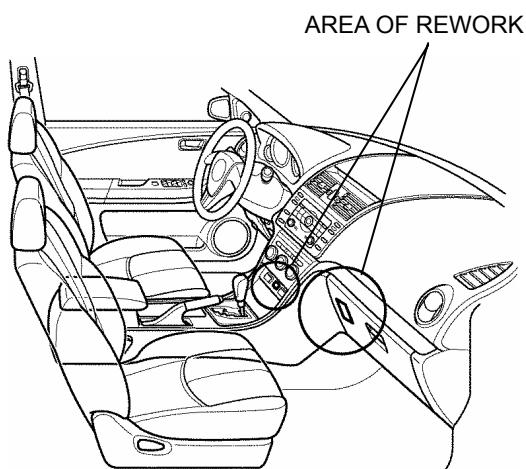

FIGURE 1
1. Refer to Figure 1 for area of rework.